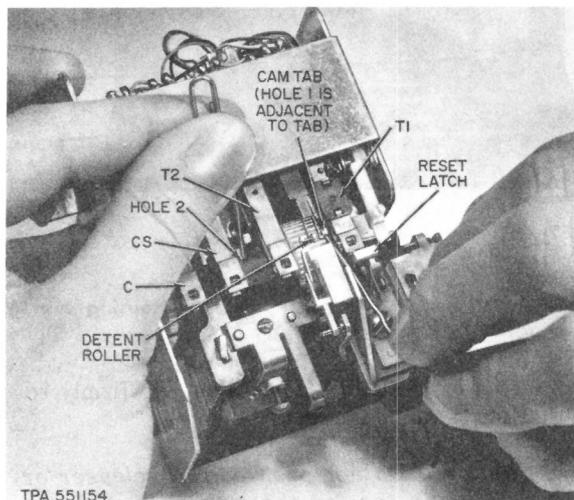

Fig. 12—Decreasing Totalizer Rate (Typical)
Decreasing Rate (Fig. 12)
- (7) Repeat steps (1) through (3).
- (8) Position a second releaser or paper clip into the hole on T1 cam indicated as hole 1 (Fig. 12) and rotate cam in direction of the curved arrow as shown.
If hole 1 in T1 cam has been mutilated or clogged preventing use, place releaser or paper clip against tab as shown in Fig. 12 and push tab in direction of the straight arrow.